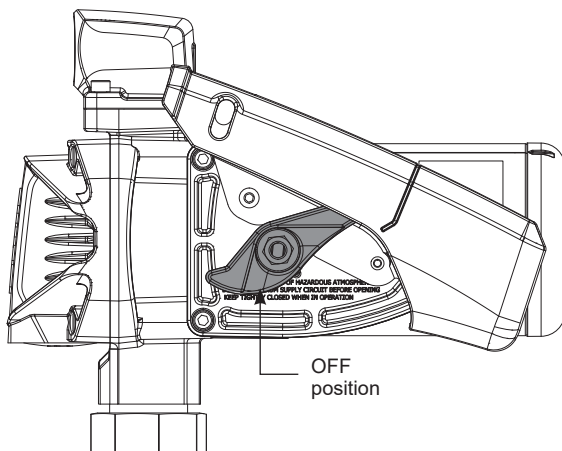

Figure 9
3. Place the nozzle into the nozzle holder on the end of the pump motor housing. Note that the nozzle cannot be placed in the holder unless the pump switch is OFF (see Figure 9).
IMPORTANT: Verify switch is in OFF position (see Figure 9), then route the electrical wires to the source of the vehicle power system. Be sure to support the wires as necessary and protect them from sharp edges, heat or anything that could damage the wires.
2. To reset, turn switch lever OFF and then back ON (see Figures 9 and 10).